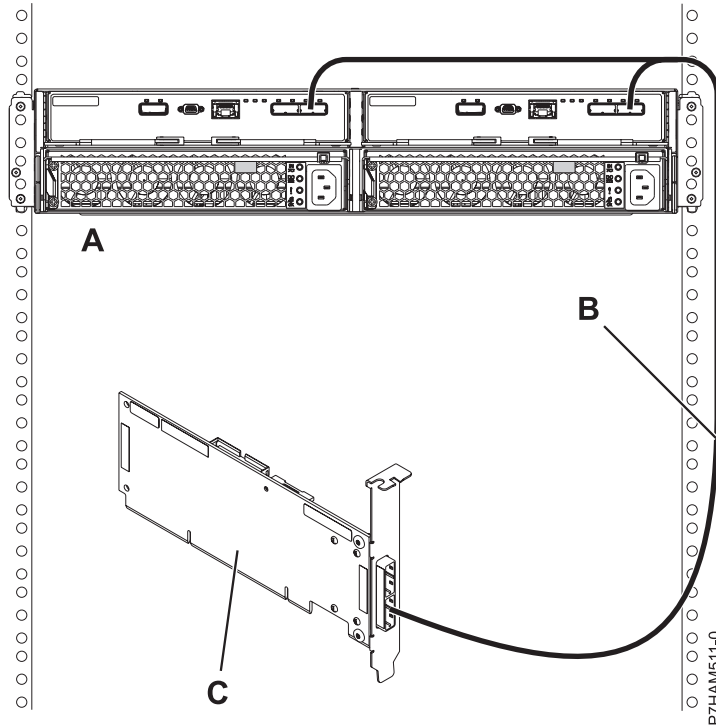

Figure 29. Mode 1 connection of one 5887 disk drive enclosure by using a YO cable to a single SAS adapter
- i. Perform the mode 1 connection of one 5887 disk drive enclosure (A) by using a YO cable (B) to a single SAS adapter (C) as shown in Figure 29 on page 26.